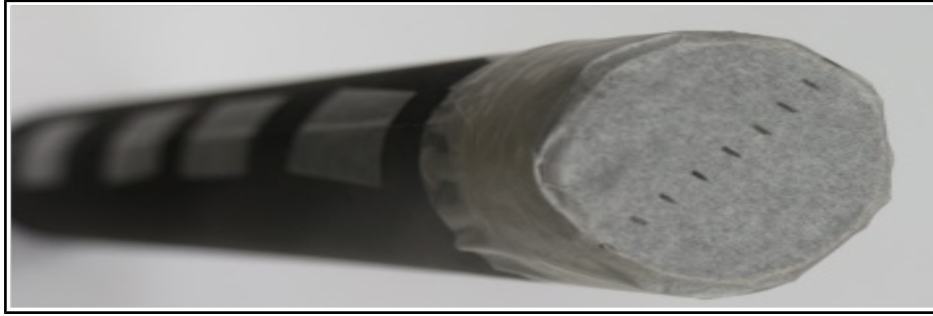

Figure 3: Markings on screen for measuring image size
ii. Cover the other end of the tube with a translucent sheet of tracing paper or a similar material. This sheet will work as the screen. Let us call this tube as the image tube (IT). Put the markings on the screen as shown in figure 3 at every 5 mm. The markings will help in measuring the size of the image formed on the screen in task 3.